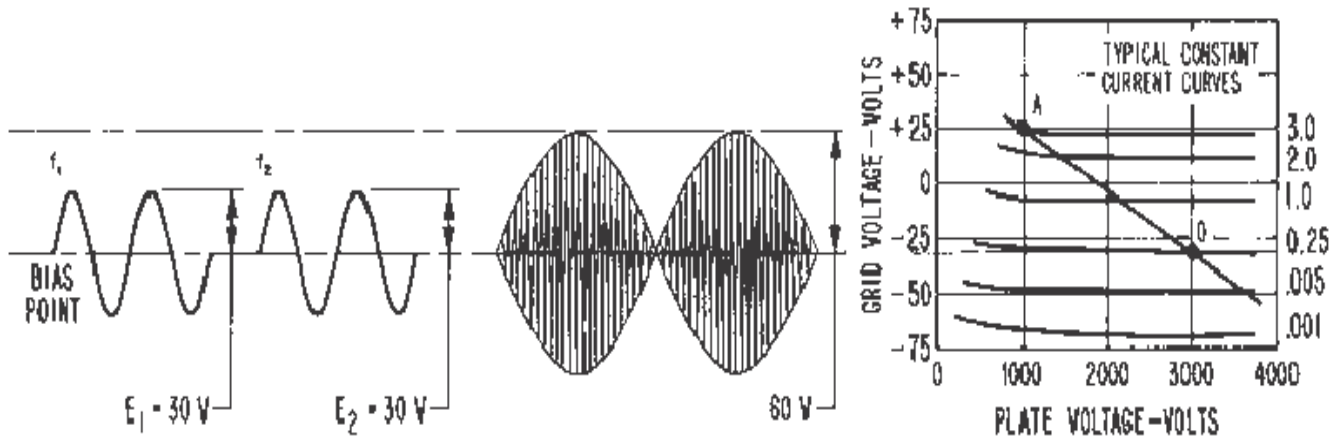

Figure 2. Two-Equal tone condition.
3. To drive the amplifier to the same PEP output with a two-equal tone Signal, the drive signal voltage for each tone must be 1/nth (n = number of tones) the amplitude of the single tone signal. For a **Two-Equal Tone Signal** the two frequencies (f1 and f2) are equal in amplitude but slightly different in frequency. As a result, when they are exactly in phase, the two crest voltages add directly to produce the crest of the two-tone envelope. When the two frequencies are exactly out of phase, then the cusp of the two-tone envelope results (**Figure 2**). Note that the voltage amplitude at the crest of the resultant two-equal tone envelope is equal to that of the single-tone envelope and therefore the tube is driven to the same point "A" on the operating line in each case. If the tube is driven to the same peak anode current and the same peak anode voltage swing by different exciting signals, then the Peak Envelope Power Output for both signals is the same.